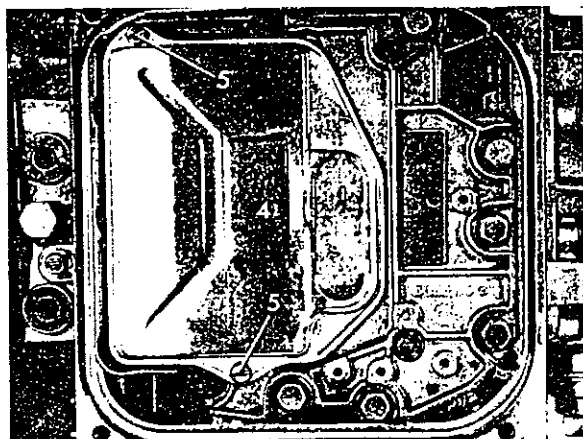

Fig. 58
44 Install oil filter (4), screw down attaching bolts (5) and tighten to specification **Fig. 58**